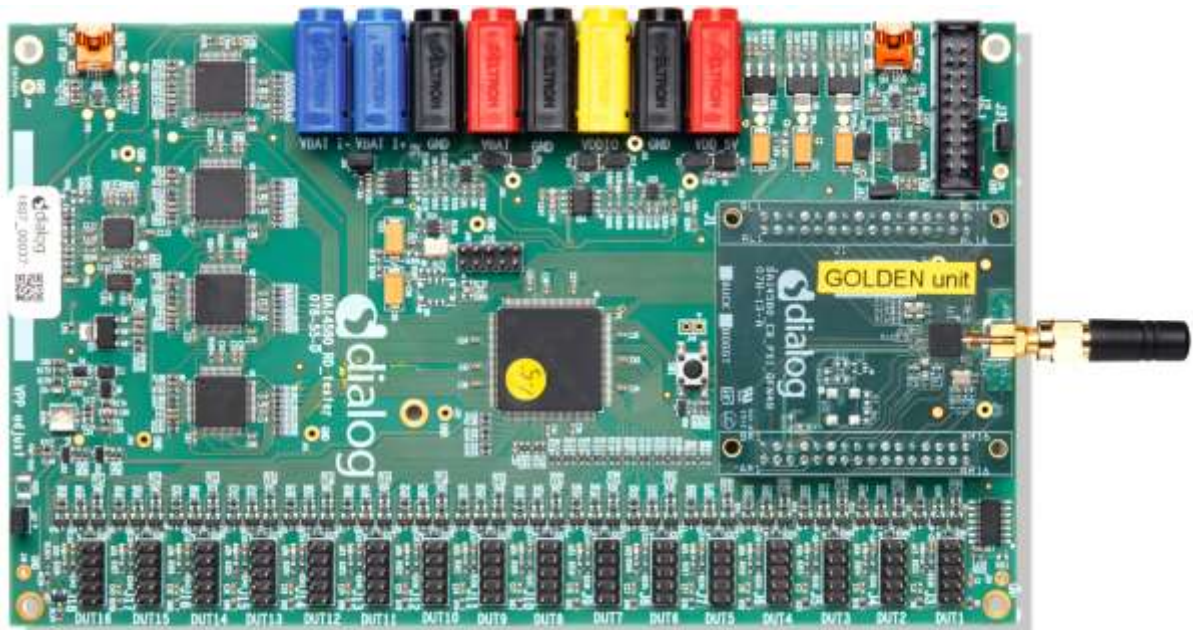

Figure 1: Production Line Tool hardware
- Main board (Figure 1) together with a DA14580-QFN48 Golden Unit